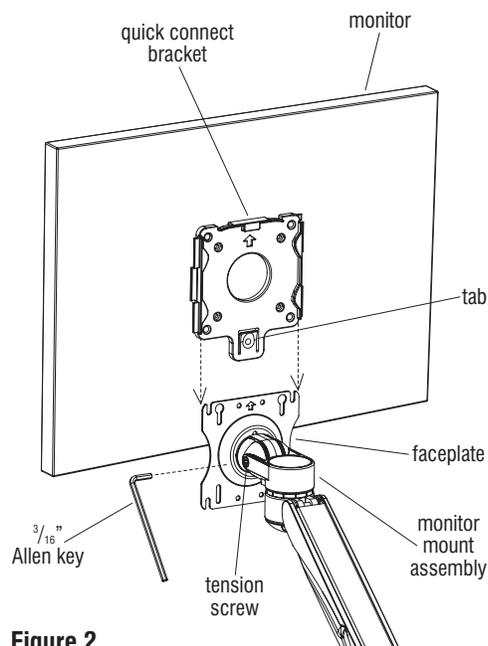

Figure 2
2. Making sure the arrow symbol on the faceplate of the monitor mount assembly is facing up, slide connect bracket onto faceplate until the bottom tab of the connect bracket clicks onto the faceplate (Figure 2).
3. To remove the monitor, depress tab on the quick connect bracket and remove from monitor mount assembly (Figure 2).